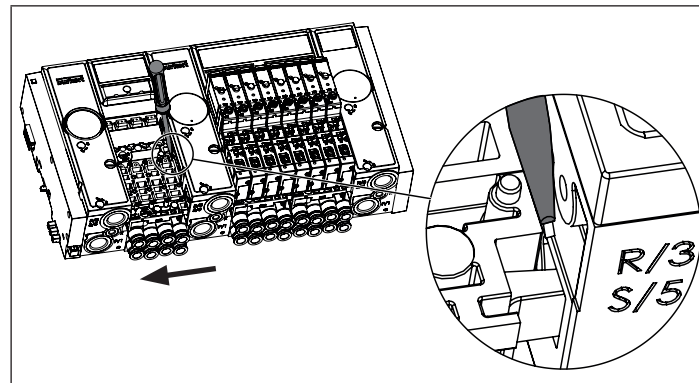

Fig. 17: Unlocking top latch hook
- Unlock the top latch hook. To do this, push the left connection module parallel to the standard rail of the locked valve unit away with a slotted screwdriver at the bottom latch hook, until the top latch hook unlocks (see “Fig. 17”).
- Unlock the top latch hook. To do this, push the connection module parallel to the standard rail of the locked valve unit away with a slotted screwdriver at the top latch hook, until the top latch hook unlocks (see “Fig. 17”).
→ Unlock the top latch hook. To do this, push the left connection module parallel to the standard rail of the locked valve unit away with a slotted screwdriver at the top latch hook, until the top latch hook unlocks (see “Fig. 17”).
→ Unlock the top latch hook. To do this, push the connection module parallel to the standard rail of the locked valve unit away with a slotted screwdriver at the top latch hook, until the top latch hook unlocks (see “Fig. 17”).